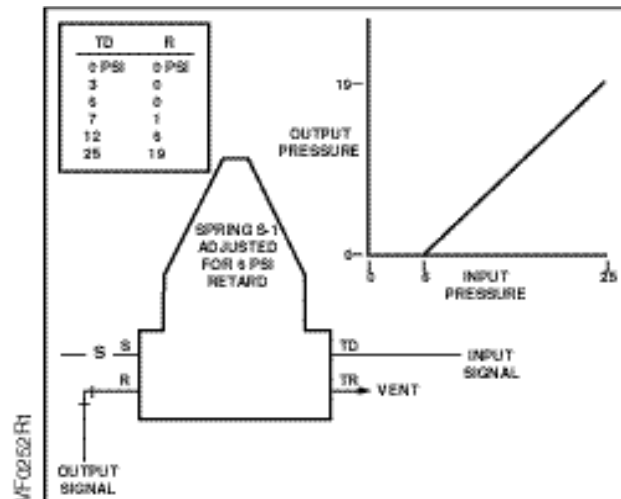

Figure 2. Signal Retard Relay.
The RL-243 Balanced Retard (BR) Relay is a pneumatic auxiliary device used to obtain special pneumatic signal outputs for use in a pneumatic control system. Standard applications include signal retarding, balancing action, and signal advancing. The relay can also be used to obtain several special control functions such as signal hesitation and pressure limiting. (See Figures 2 through 6.)
1. Retard relay (See Figure 2).